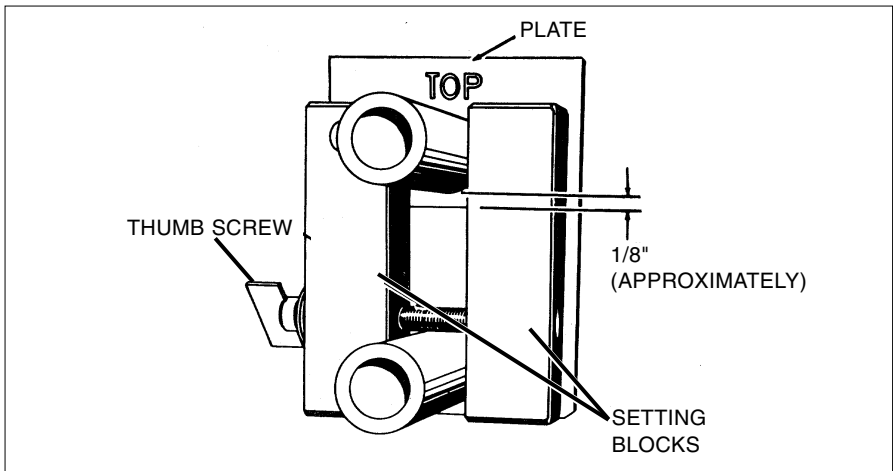

FIGURE 4
1. Clean blocks and pins (see Figure 4).